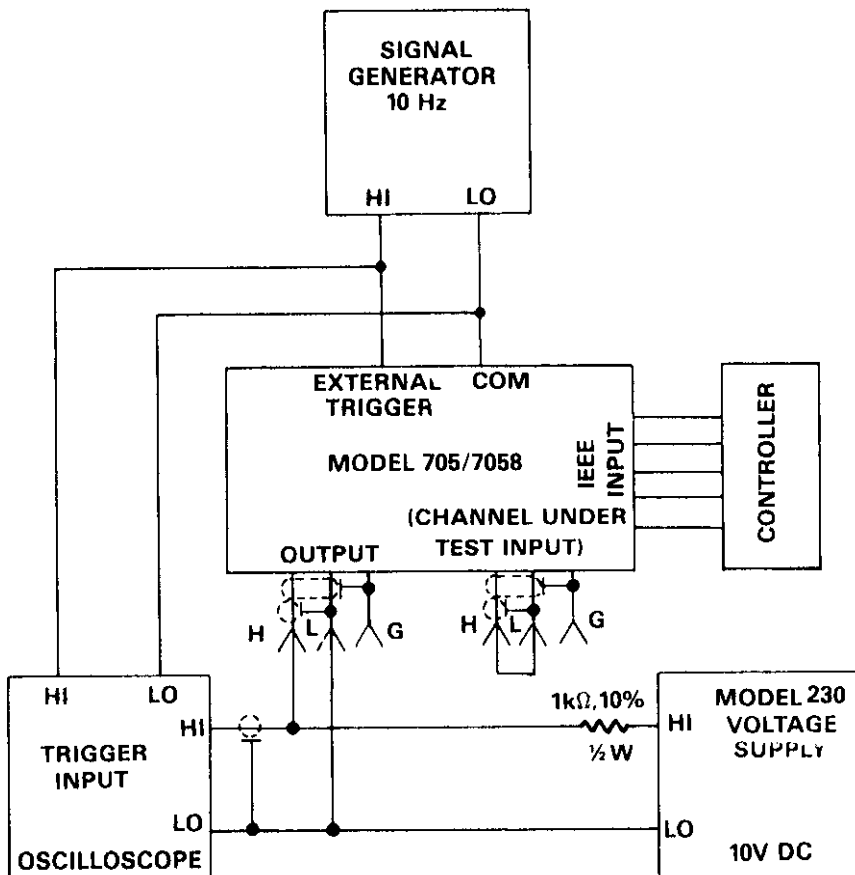

Figure 7. Test Set Up For Relay Timing Test
- A. Set up the Model 7058 in the mainframe as shown in Figure 7. Select channel 1.